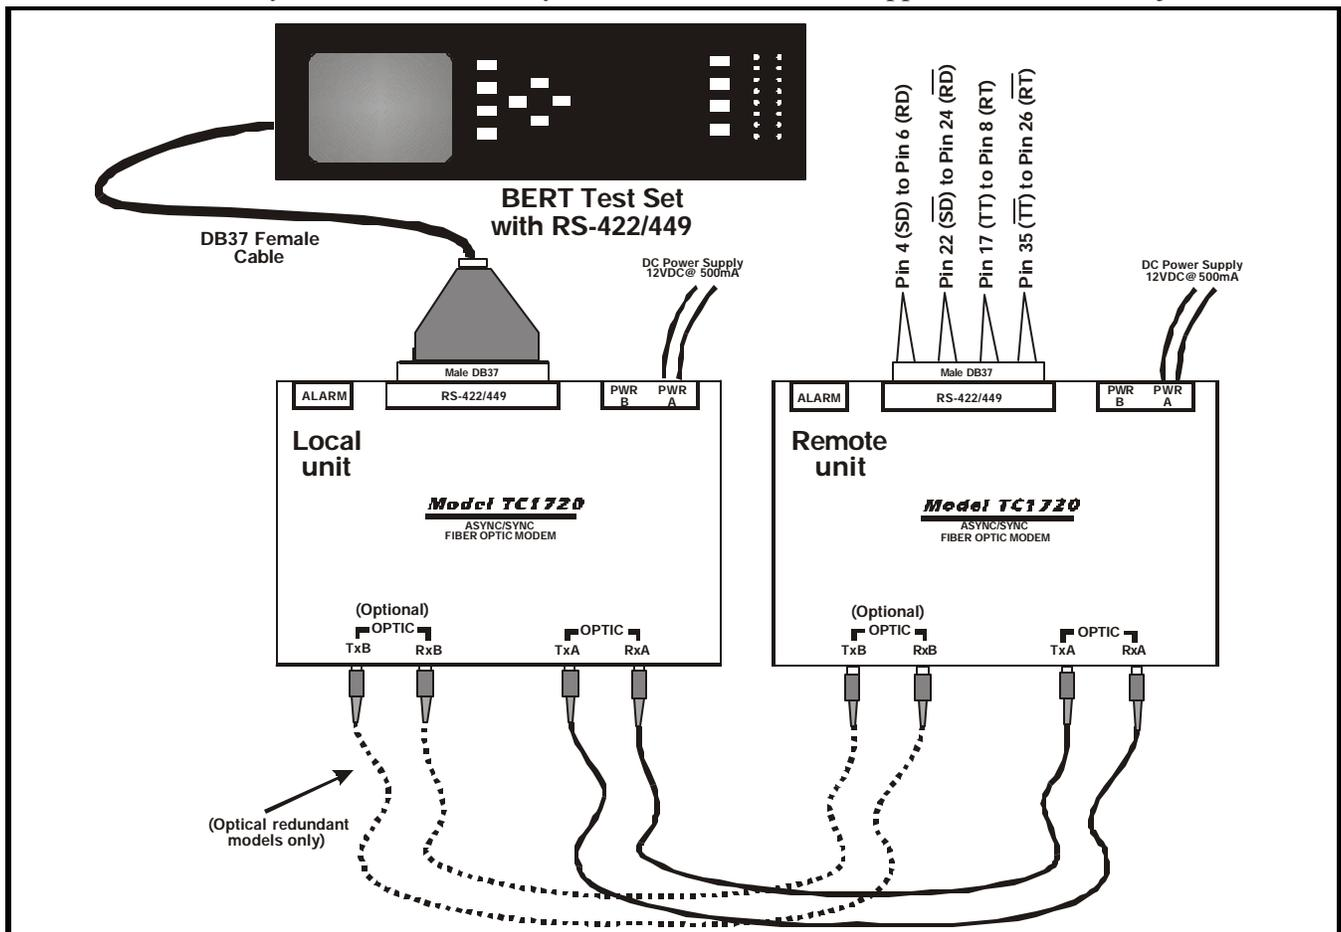

Figure 9. Remote Electrical Loopback Test Connection Diagram
1. Set up the bench test as illustrated in Figure 9 below. Make sure all front panel SW2 dip switches on both the Local & Remote TC1720's are to the up "Off" position.